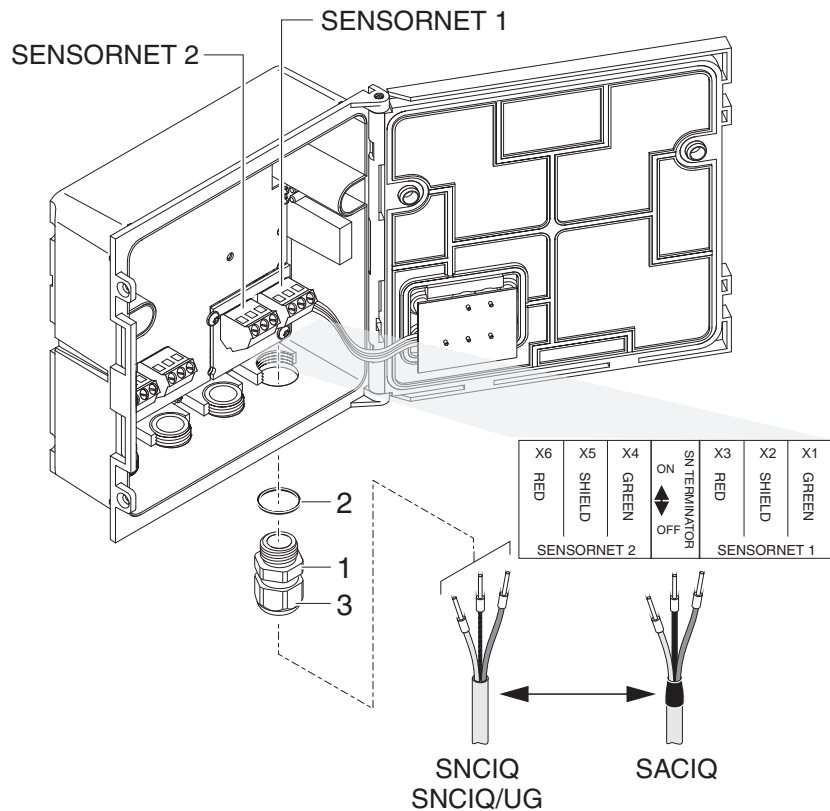

Fig. 3-15 Connecting cables to the MIQ module
3	Screw the cable gland (pos. 1 in Fig. 3-15) with the sealing ring (pos. 2) into the module housing.
4	Loosen the coupling ring (pos. 3 in Fig. 3-15).
7	Tighten the coupling ring (pos. 3 in Fig. 3-15).